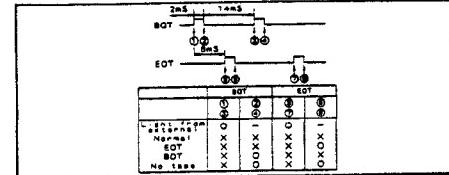

Fig. I-18
The LED for BOT/EOT detection is turned on/off by the TAPE SENS LED signal fed from the pin 25 of servo microcomputer (IC109). The flashing cycle is as shown in the Fig. I-18. If the signals at the timings of ①, ③ and ⑤, ⑦ in the figure are low, the mechanism cancels the detecting operation. (judged as a light from the external)